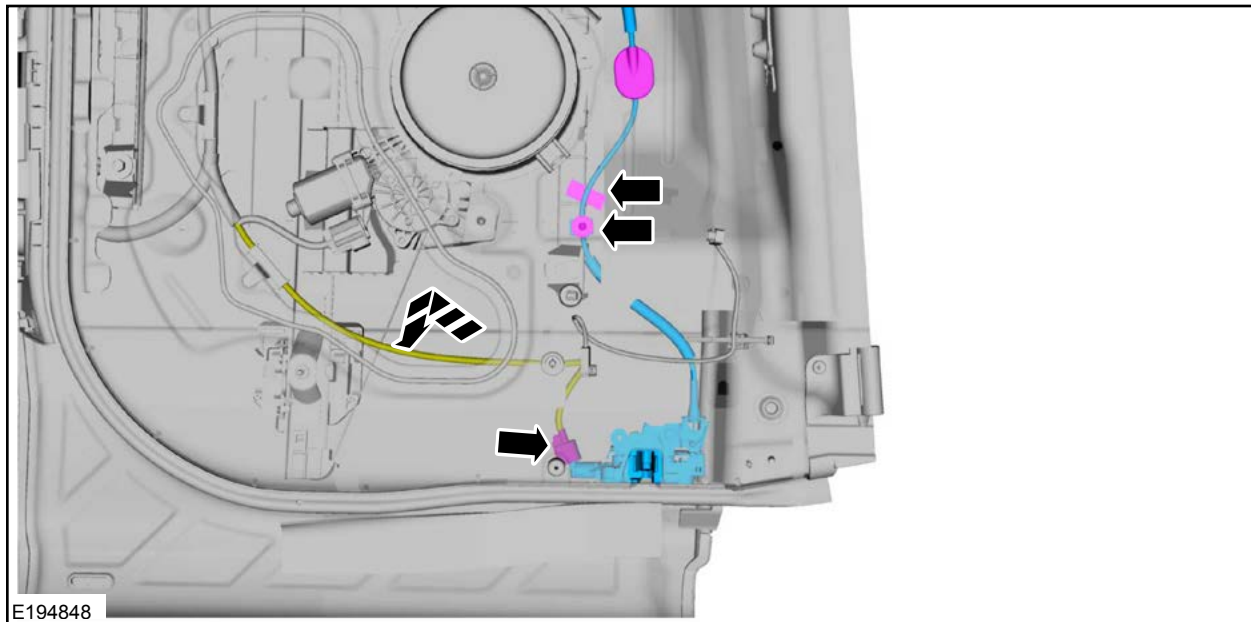

FIGURE 31
3. Inspect the interior door handle to latch cable for kinking. See Figure 31.
5. Detach the cable retainers and disconnect the electrical connector. Position the rear door latch outside of the door. See Figure 31.
9. Position the rear door lower latch back into the door. Attach the cable retainers and connect the electrical connector. See Figure 31.